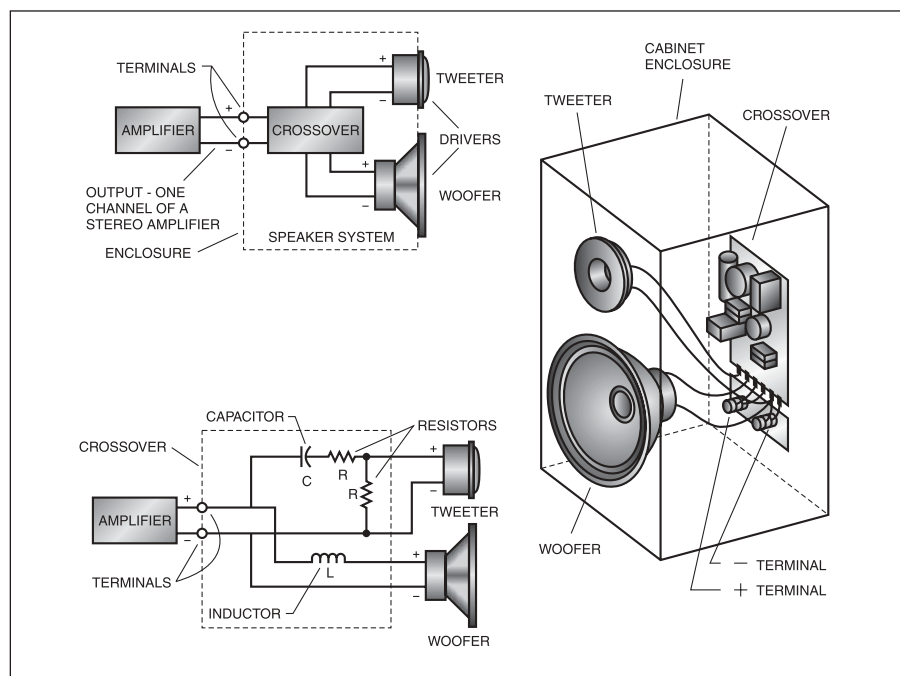
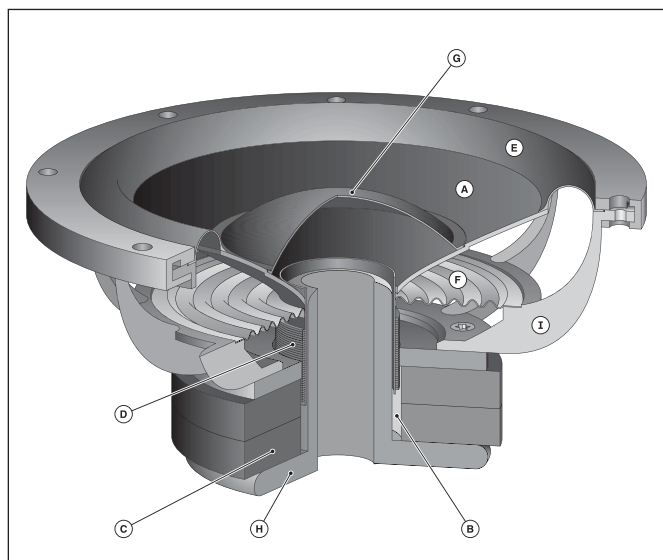
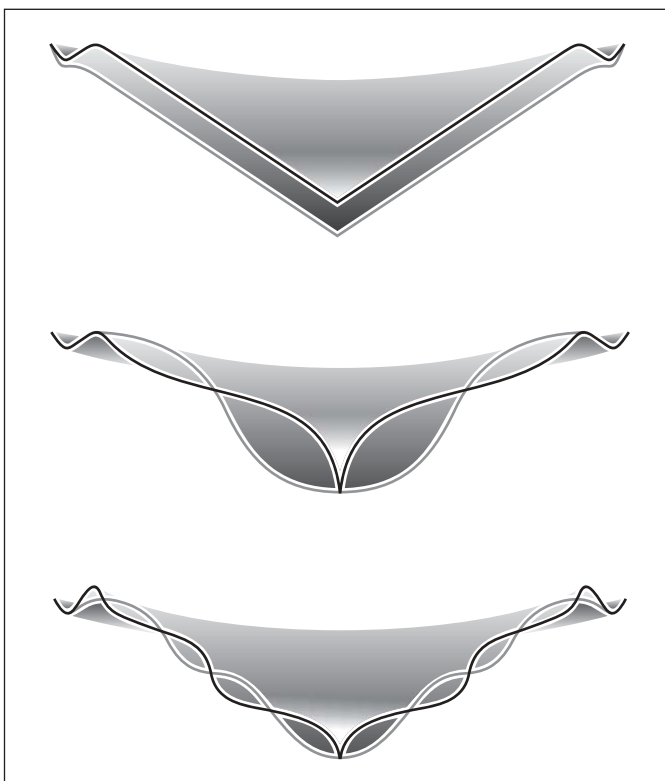

FIGURE 1: The complete speaker system: drivers, crossover, and box.
FIGURE 2: A cut-away section of a moving-coil driver showing the various parts.
FIGURE 3: “Break-up” modes in a driver cone.
The published results—limited (because of lack of space) to four amplifiers—revealed very interesting dynamic components of each amplifier in that condition. In that article, Fig. 1 shows original signal spectra with pre-filtered 50Hz applied directly to the load and the 1kHz signal applied to the input of the amplifier; Fig. 2 illustrates a good example of an amplifier not influenced by this condition; Figs. 3 and 4 show two other examples of amplifiers exceptionally good under normal measurement conditions, each using different complex active feedback, showing on that test important generation of harmonics that would be a good explanation concerning their "inexplicably harsh and brittle-sounding" output; and Fig. 5 shows a single-stage amplifier (801A), with formation of harmonics and subharmonics with "paradoxically" a quite tolerable subjective distortion effect due certainly to regular decay envelopes.
Figure 1 shows a transparent speaker system with box, drivers, and crossover. A simple crossover is shown to the left in this figure between the amplifier and drivers. Once you know the cabinet size and the crossover values, you are then ready for construction. You'll need to do some hand work, even if only to assemble the parts of a kit. However, most projects have fairly involved woodworking and wiring, including the use of miter joints, routing recessed holes for the drivers, and the soldering of a complicated crossover.
In *Fig. 2* you see the essential parts that make up a speaker driver. Many of these parts have a direct bearing on the quality of sound the driver contributes in a speaker system. Let us examine some of the parts referred to in the figure.
- A—the Cone. The part that actually moves the air. Technology has continually improved cone materials, always striving to attain a better ratio of extremely light material to very rigid fabric. The attempt is to find a textile composition that will permit the driver motor to move the cone quickly and efficiently yet control cone “break-up” modes that can cause nasty resonance peaks. *Figure 3* shows how a cone can flex as frequency increases . . . At first, paper